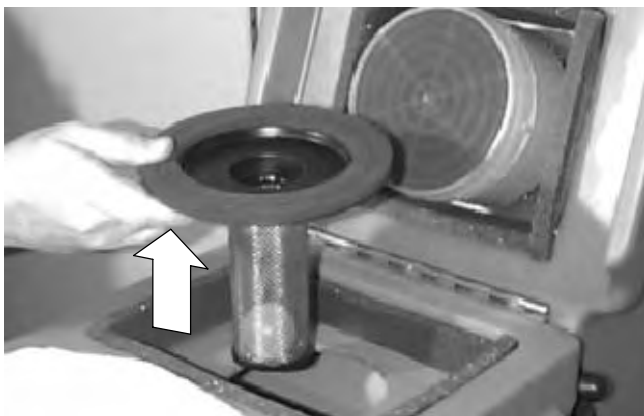

FIG. 15
3. Clean ball float screen inside tank after every use. Lift float screen assembly out of tank (*Figure 15*). Be certain to replace screen securely .